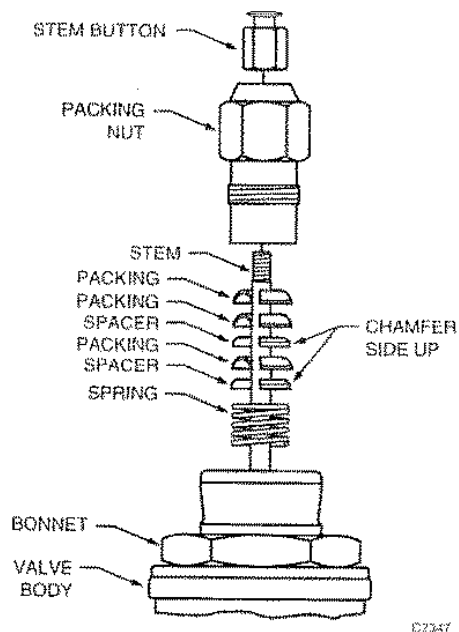

Fig 1. Valve with Chevron Packing and 1/4 Inch Stem.
- ② Remove signal from actuator and disassemble actuator from valve.
- ③ Depending on Valve type, remove Stem Button or Stem Button-Stem Extension Assembly from Stem. Refer to Figures 1 through 4.
- ① Lubricate Stem and slide all parts, including Spring, Packing, and Spacers over Stem, per Figures 1 through 4. Use care when assembling Packing over Stem so Packing is not nicked or cut. Lubricate outside of Packing.
- ② Slide Packing Nut over Stem, thread into Bonnet and tighten, securely.